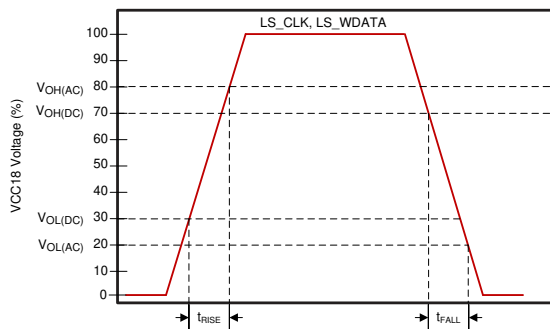
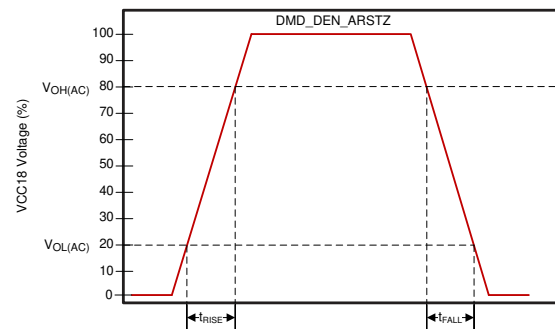

图 6-3. LS_CLK and LS_WDATA Slew Rate
图 6-4. DMD_DEN_ARSTZ Slew Rate
- See 图 6-3 for DMD_LS_CLK, and DMD_LS_WDATA rise and fall times. See 图 6-4 for DMD_DEN_ARSTZ rise and fall times.